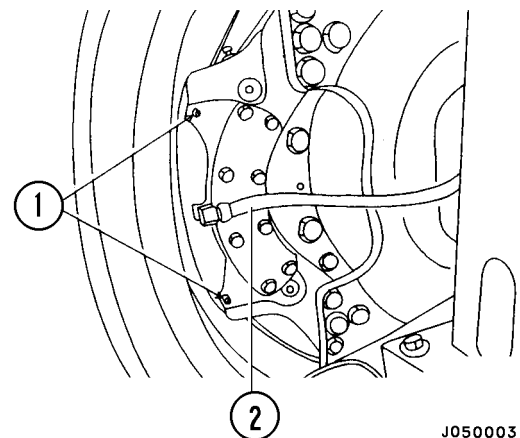

FIGURE 4-10. FRONT BRAKE PRESSURE
2. Remove the top air bleed plug (1, Figure 4-10) and install a 400 kg/cm2 (5690 psi) pressure gauge.